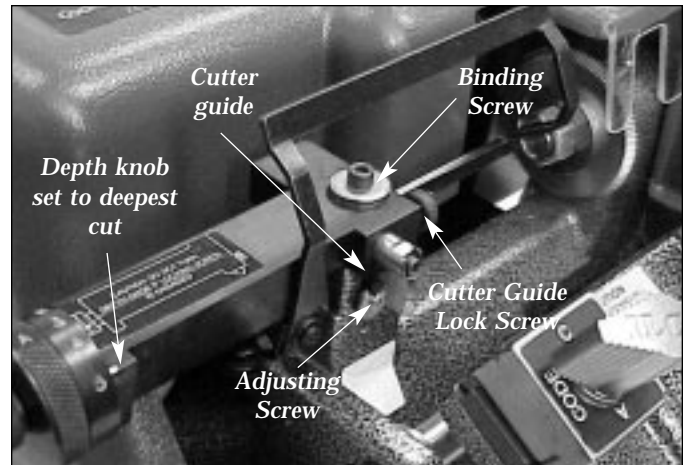

Figure 17
5. To adjust the cutter guide, slightly loosen the binding screw (see Fig. 17).